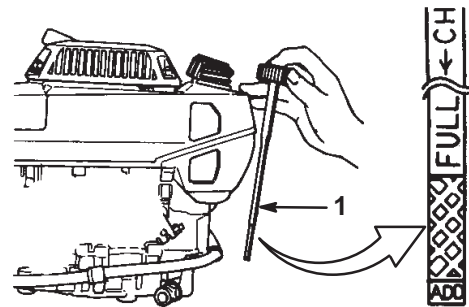

Figure 4
Before each use, ensure that the oil level is between the *Add* and *Full* marks on the dipstick (Fig. 4).
2. Clean around the dipstick (Fig. 4).
6. Read the oil level on the dipstick (Fig. 4).